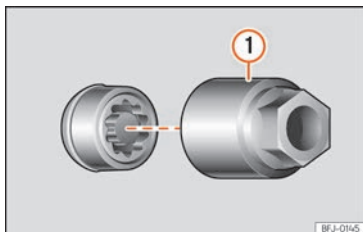

Fig. 221 Anti-theft wheel bolt with cap and adapter.
- Insert the special adapter » Fig. 221 ① (vehicle tools » page 286) onto the anti-theft wheel bolt and push it on as far as it will go.